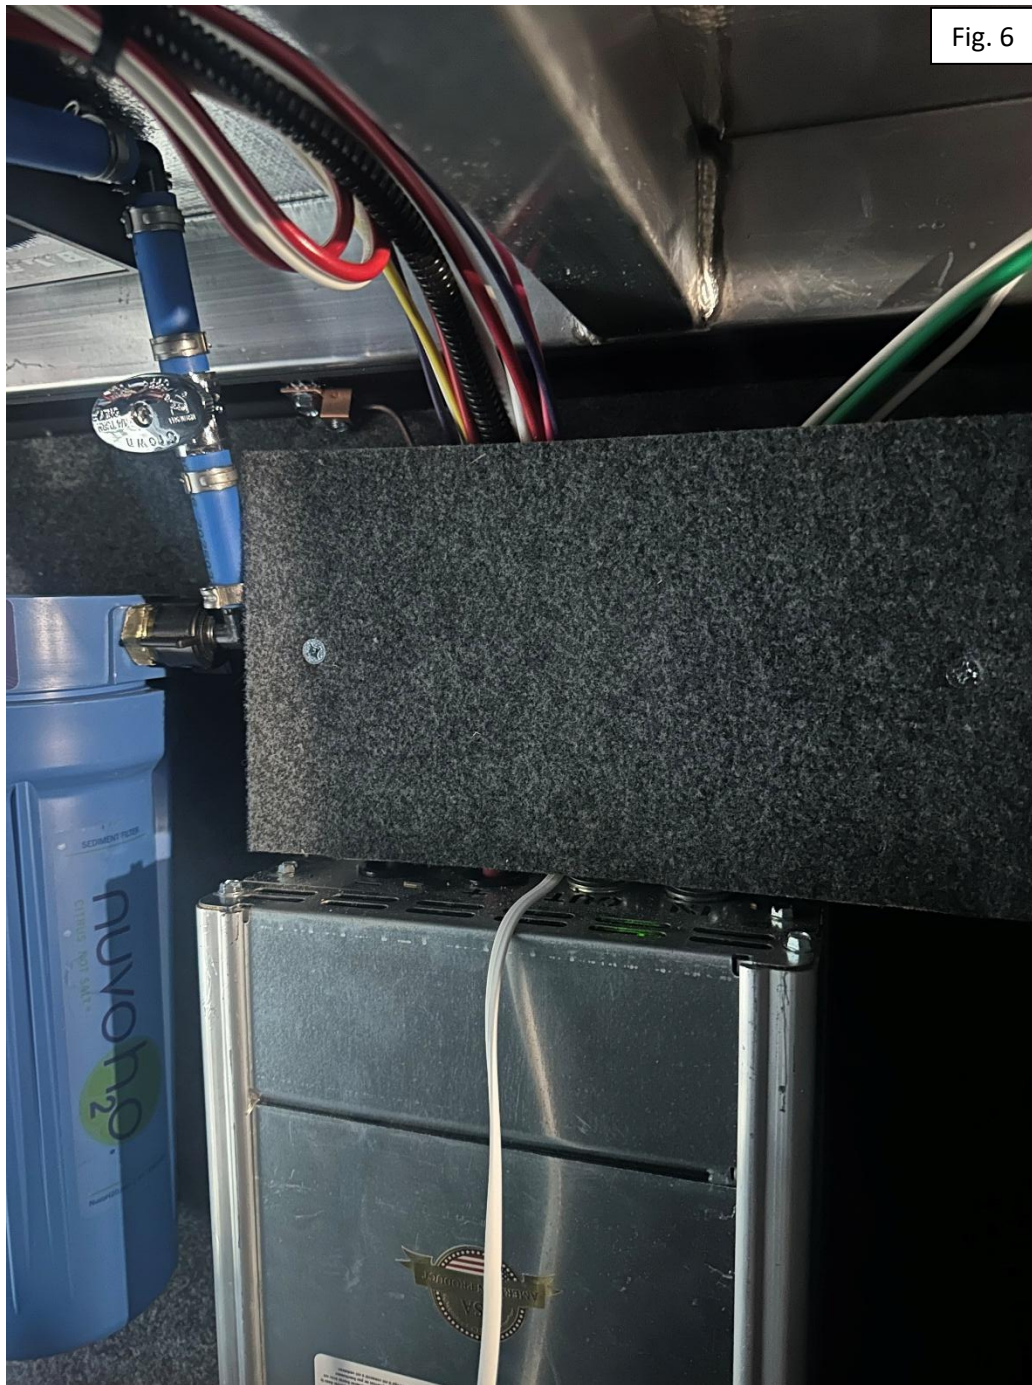

Fig. 6
6. Reinstall felt cover as shown in figure 6.